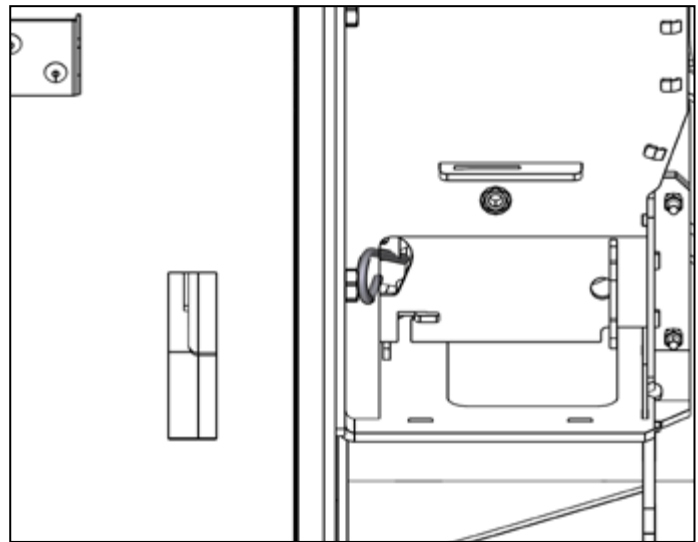

Figure 12-16: Cotter pin removal
- Using the multi-purpose tool supplied with the boiler, remove the wire cotter pin that attaches the brazier assembly to the brazier cleaning shaft. Refer to Figure 12-16.